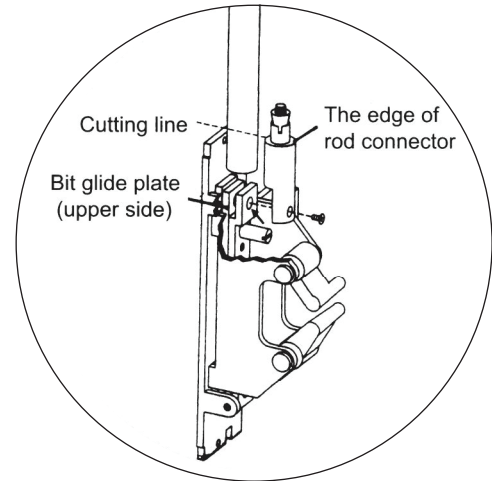

Figure 10
- c. Measure the top rod against the edge of the rod connector as shown. Mark the rod and cut off excess. (See Figure 10.)